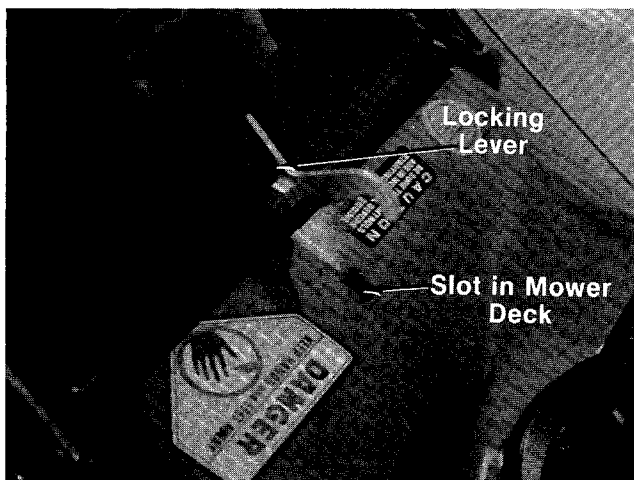

FIGURE 9.
- ← 3. Move the locking lever forward and hook in slot on mower. See figures 9 and 10.